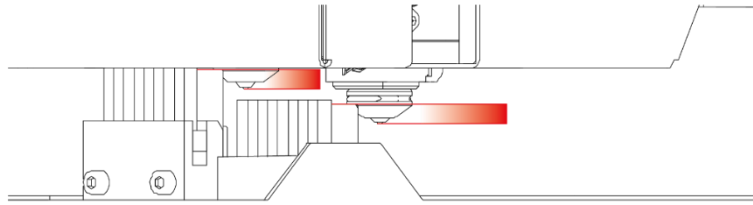

Fig. 14 Incorrectly adjusted cleaning station slats relative to the module nozzles – too short distance
2. The distance between the nozzle and the cleaning station bar is too short and the slat is in excessive contact with the nozzle cover (Fig. 14).